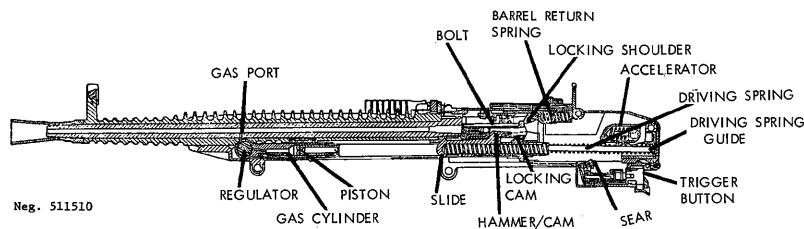

Figure 211. ZB-37 section.
a. The ZB37 is gas operated; when the gun is cocked, i.e., when the sear holds the slide to the rear against the pressure of the driving spring and a loaded belt is in position in the feedway, pressure on the firing button will cause the sear to release the slide. The compressed driving spring forces the slide and bolt forward. The bolt is nestled down on the slide and held in position by a pair of guides (fig 209) on the cover. As the bolt goes forward, a rib on top of it drives a cartridge out of the belt and into the chamber. Just before the bolt strikes the end of the barrel, the extractor snaps into the rim of the cartridge and a stud inside the barrel extension starts the rear end of the bolt upward. The locking cam on the slide (fig 211) continues to force the rear of the bolt upward until it is fully locked in the barrel-extension locking shoulder. The slide continues forward until the front of the hammer cam (fig 211) strikes the firing pin and fires the cartridge.
d. The accelerator (fig 211) can be moved into or out of position to be hit by the recoiling slide; when the accelerator is swung down to its lower position, the slide strikes the front of the accelerator and compresses the strong spring within the accelerator. When this spring expands, extra speed is added to the slide, thus accelerating the firing cycle.